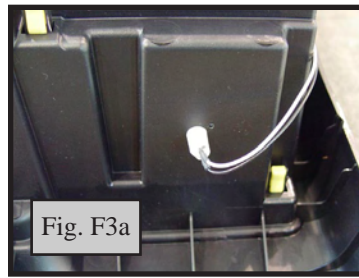

Fig. F3a
3. From the outside of the cup holder, install the LED's onto the lenses. Press firmly while holding the Lens from the inside. (Fig. F3ab)